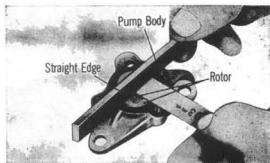

Fig. 11
3. Measuring the end clearance of the rotor. Place a straight edge across the pump housing and check the clearance of the rotor with a thickness geuge (Fig. 11).